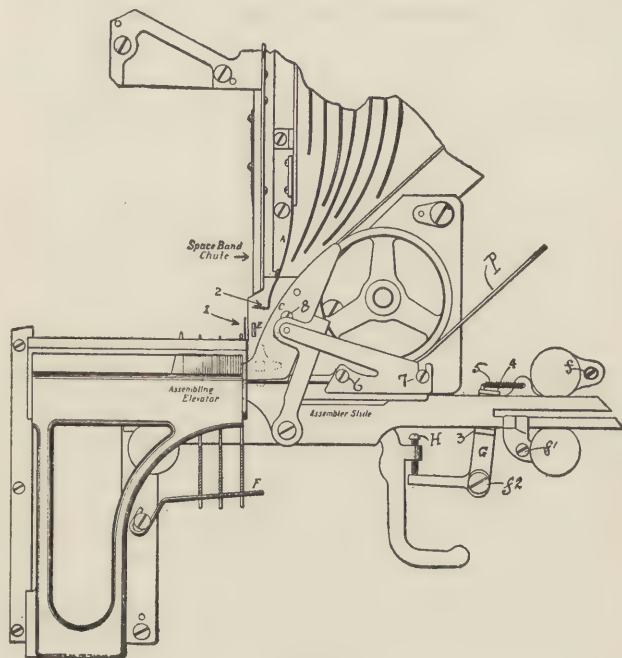

FIG. 13.
“**I**N order to prevent transpositions of matrices and spacebands, ‘squabbling’ of matrix lines, etc., the assembler adjustments must be carefully maintained,” said the Machinist one day to the Operator. “The assembler chute spring (*A*, Fig. 13) should be bent so as to allow the space of about the thickness of the cap. *W* between it and the rail (*C*). Just above this point it should be curved so as to tend to throw the bottom of the matrix toward the assembler wheel. The point of the chute spring should be inclined slightly above the horizontal (2), as otherwise it interferes with the delivery of matrices and causes the spaceband to beat the last matrix of a word into the assembler by the top of the matrix striking on the points of the chute spring and causing it to be retarded long enough for the spaceband to transpose. The tongue in the lower end of the chute should be bent so as to deliver the spaceband behind the center of the assembler star. The catch spring (*E*) is intended to prevent matrices falling back to the right while assembling, though if the spring is missing altogether the assembler will probably work just as well.”
and each matrix as it assembles causes the slide to jump violently to the left. If not screwed down far enough, the slide will not return when assembler is elevated. The clutch is released when the line is elevated by the corner (*G*, Fig. 31) lifting the end of the lever on which the screw (*H*, Fig. 13) is mounted, and the long spring on the end of the assembler slide draws the slide back into position.
"Of course, those corners (3, 4) wear in time, and a patch must be fitted in. These corners should be kept square and the brake free from oil. The three screws (*f*, *f*¹, *f*², Fig. 13) when removed allow the whole device to be taken off."
The matrix catch spring (E, Fig. 13) can only be attended to while this part is off the machine.
"Whenever the matrix driving belt (*P*, Fig. 13) stretches and becomes so loose as to allow matrices, especially capital letters, to slide off to one side, the belt can be tightened by loosening the stud-nut on the upper pulley and moving the pulley back. The assembler driving belt and the round belts which drive the keyboard rollers must be kept taut, though the pulleys on the latter are held by friction springs instead of being firmly fastened to the roller shafts, so it may be the pulleys are slipping though the belts are tight.
“NOW that you have mastered the assembling devices,” said the Machinist, “we’ll take up the next step—the line-delivery carriage. The upright pin (1, Fig. 13) on the back rail of the assembling elevator, releases a catch or pawl, when the elevator is raised, which then allows the carriage, conveying the assembled line, to travel to the left. This pin (1) should lift the pawl 1-64 of an inch above the hook on the carriage, and is adjustable by means of a screw on which the pin sets, reached from beneath the assembler. As the line passes out of the assembler, the carriage trips the hook which held the assembler in an elevated position, allowing it to be lowered. I always hang a counterweight on the assembler lever so as to lighten the weight. As good a counterweight as any can be made by filling a quarter-pound tin can with molten metal and then inserting a nail, previously bent into an inverted U, into the metal just before it solidifies, thus making a loop by which it can be suspended from the lever by a strip of belt lacing.